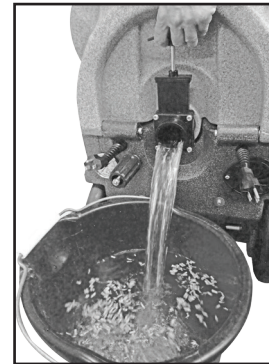

Figure 3
- Drain any remaining water from the recovery tank and dispose of in a sanitary drain. **CAUTION:** use separate buckets to drain and fill the tank. Even the smallest debris can cause issues (Figure 3).